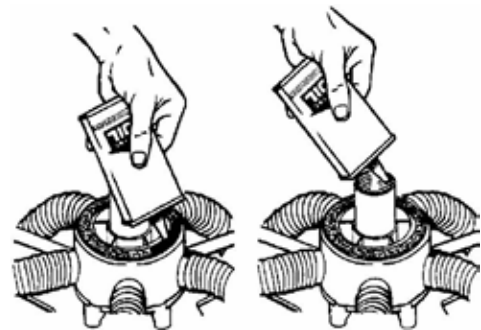

Figure 24. Lightly Oil Inner Hub Threads Before Re-Attaching Cleaning Head
6. After placing the refreshed, oil-soaked felt seal in the hub, coat the surface of the hub with 30 weight oil. Lightly oil the inner hub threads before re-attaching the cleaning head to the machine (see Figure 24).